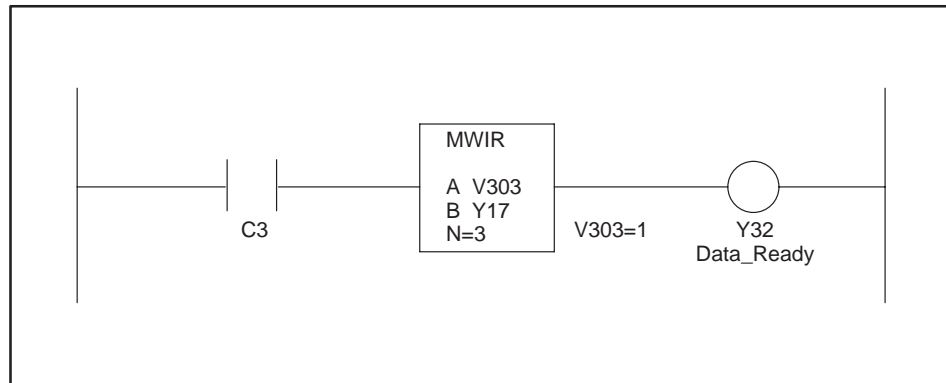

Figure 3-12 Loading the Enable Bits
6. With the Data\_Ready bit, data is transferred with Y32 (see Figure 3-12).